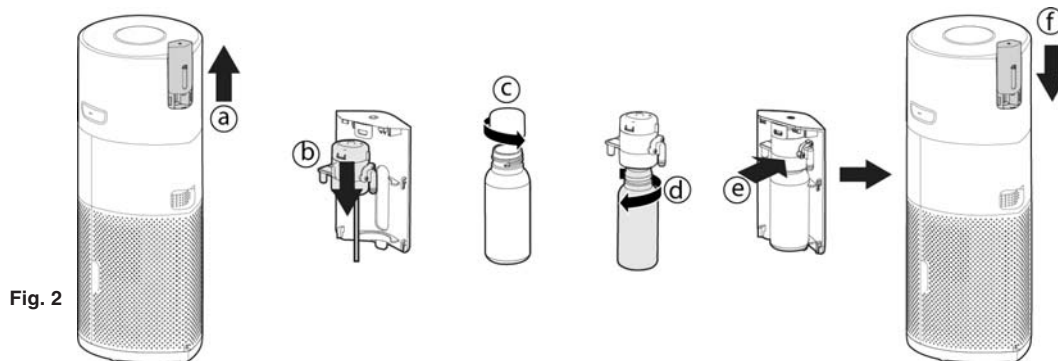

Fig. 2
2. Install the Diffuser Bottle [Fig. 2]